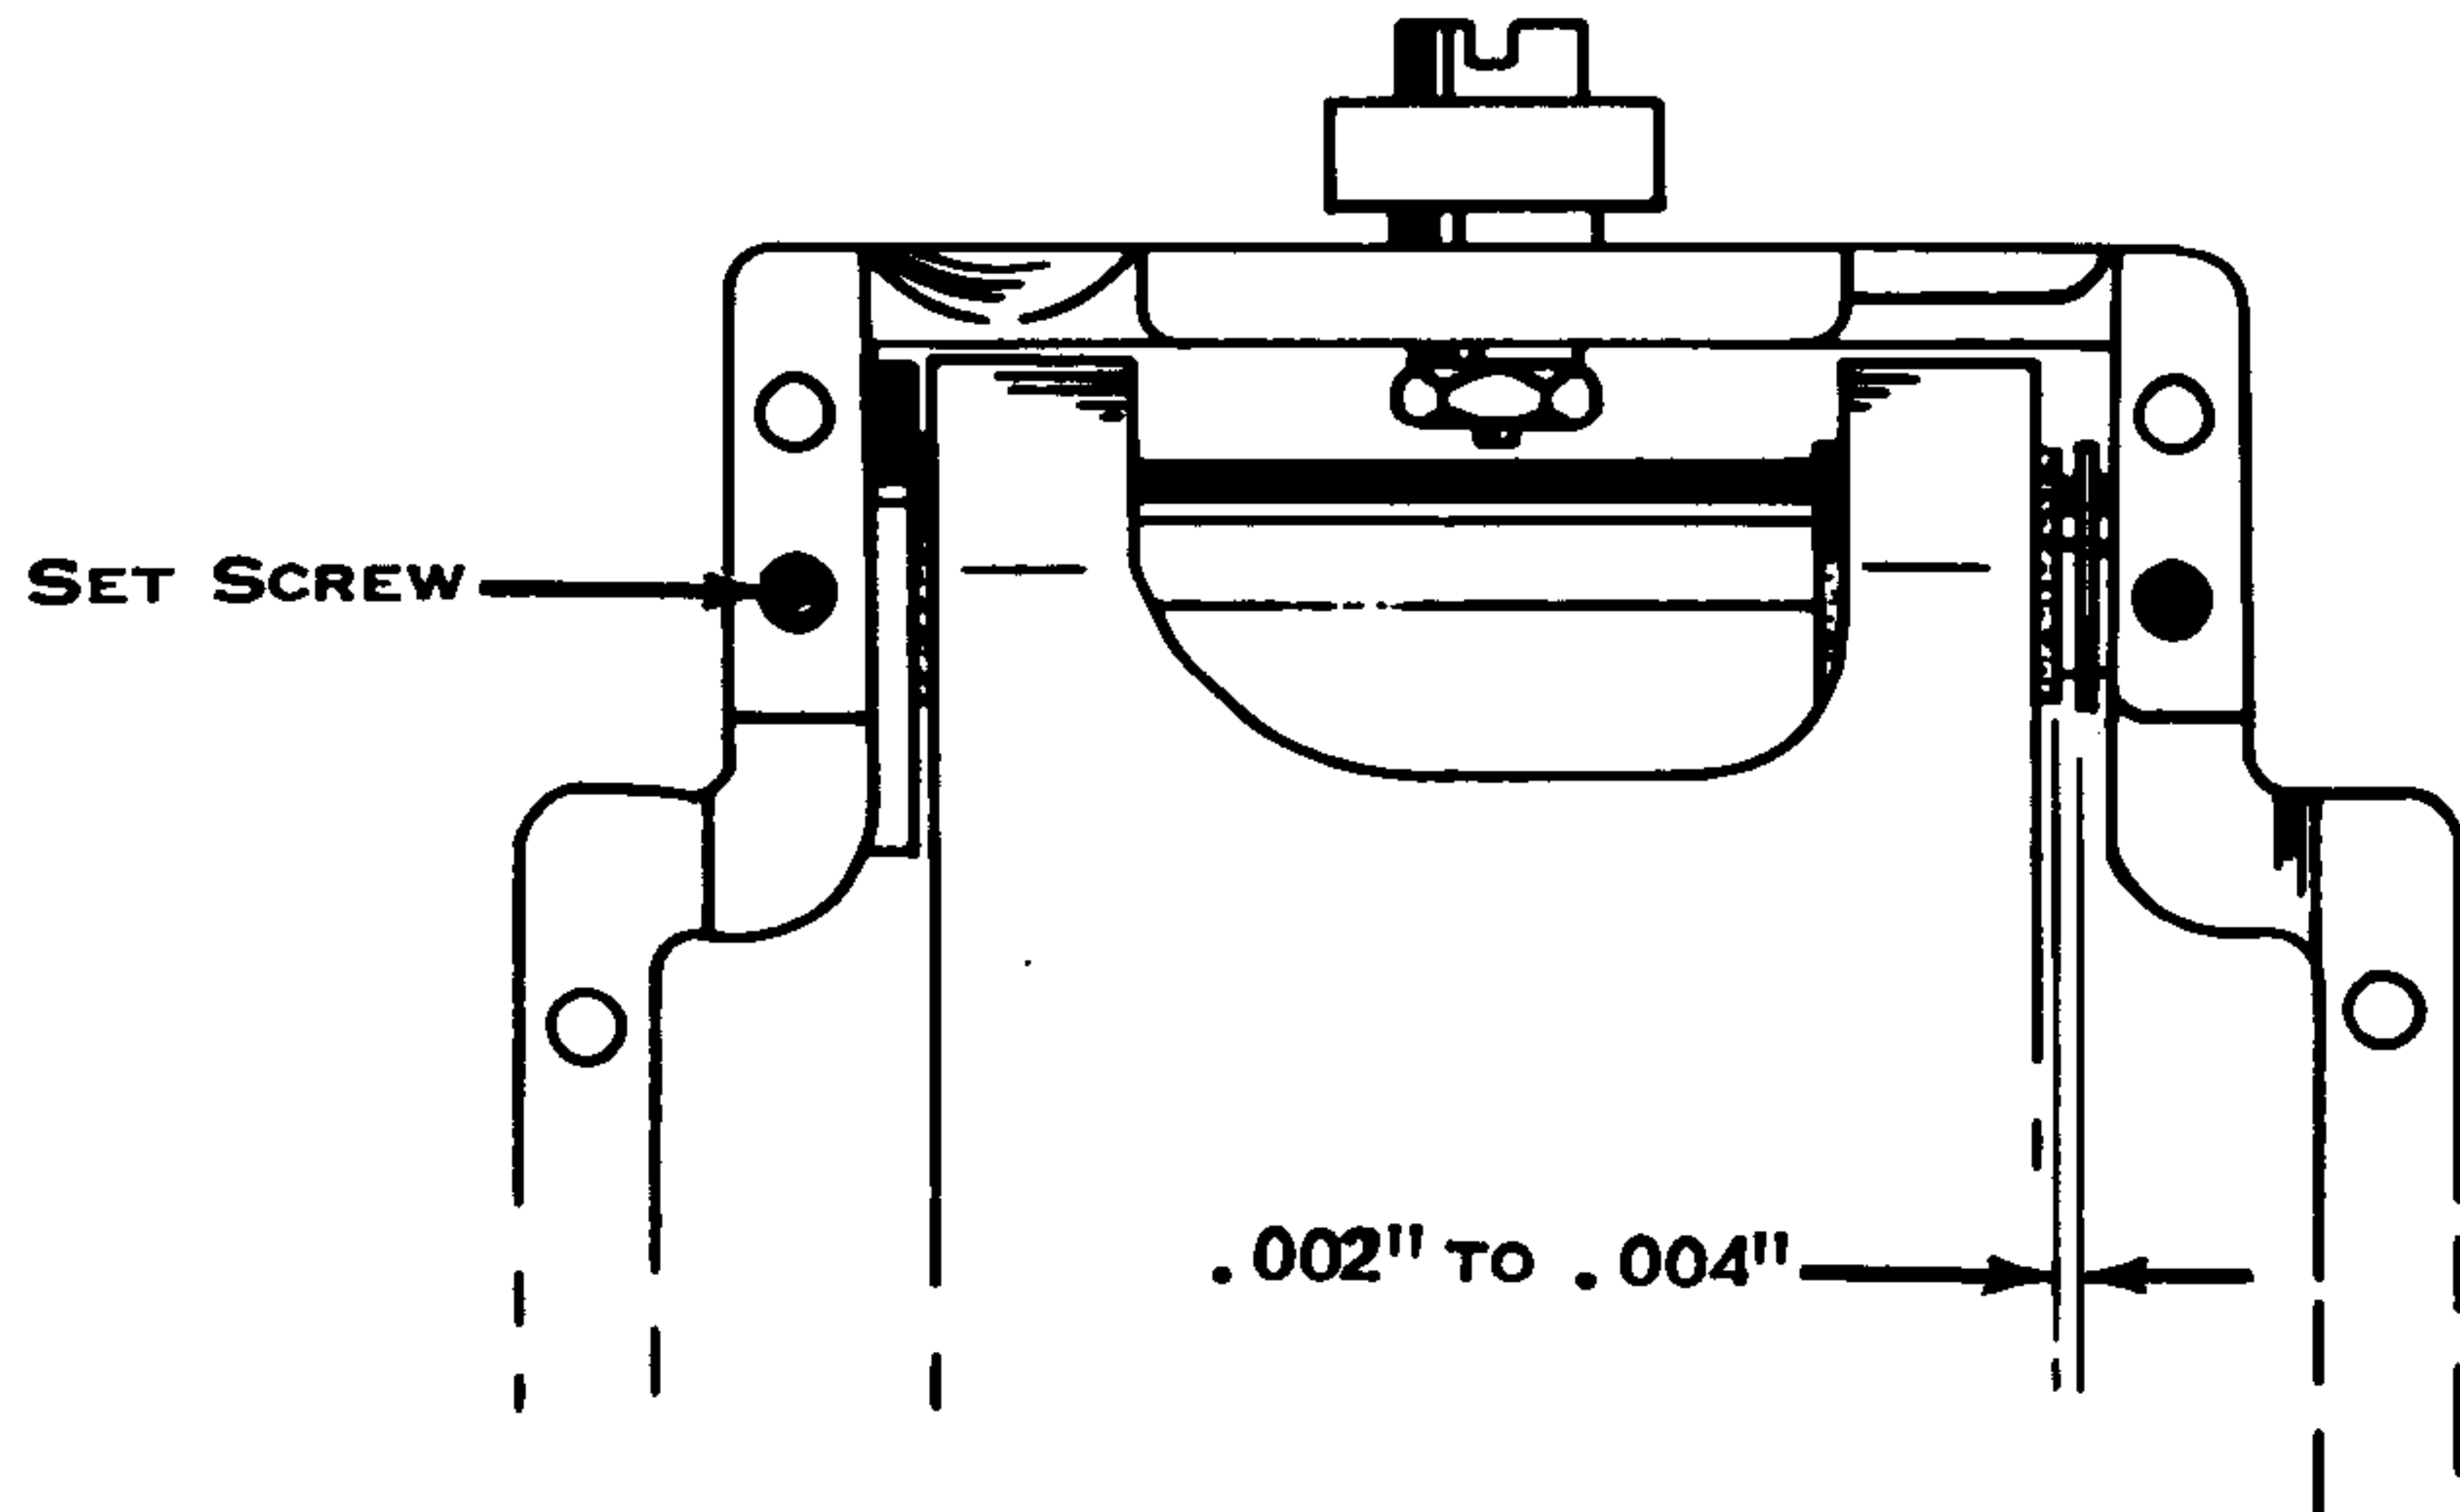

Figure 64. Rocker Shaft Adjustment
6. Rocker Shaft (Fig. 64) - The rocker shaft should be positioned left or right to obtain .002" to .004" side play in the rocker.